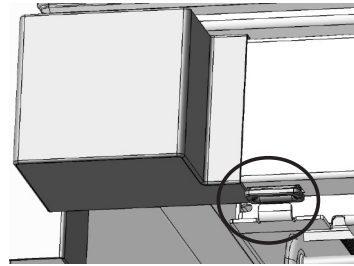
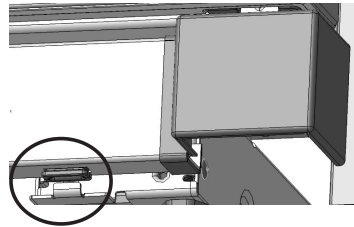

Fig. 18
Fig. 19
- b. Carefully place the Tow Kick over the 2 Leveler Assembly Slots. The first Leveler Assembly slot is circled in Fig. 18, and the second Leveler Assembly slot is circled in Fig. 19.